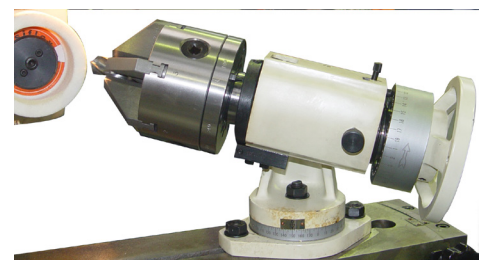

Fig.13
- 1, Loosen Handle (No.53) a little. Then adjust the angle of the fixture, by raising about 10—15° or the angle required. (Fig.13)